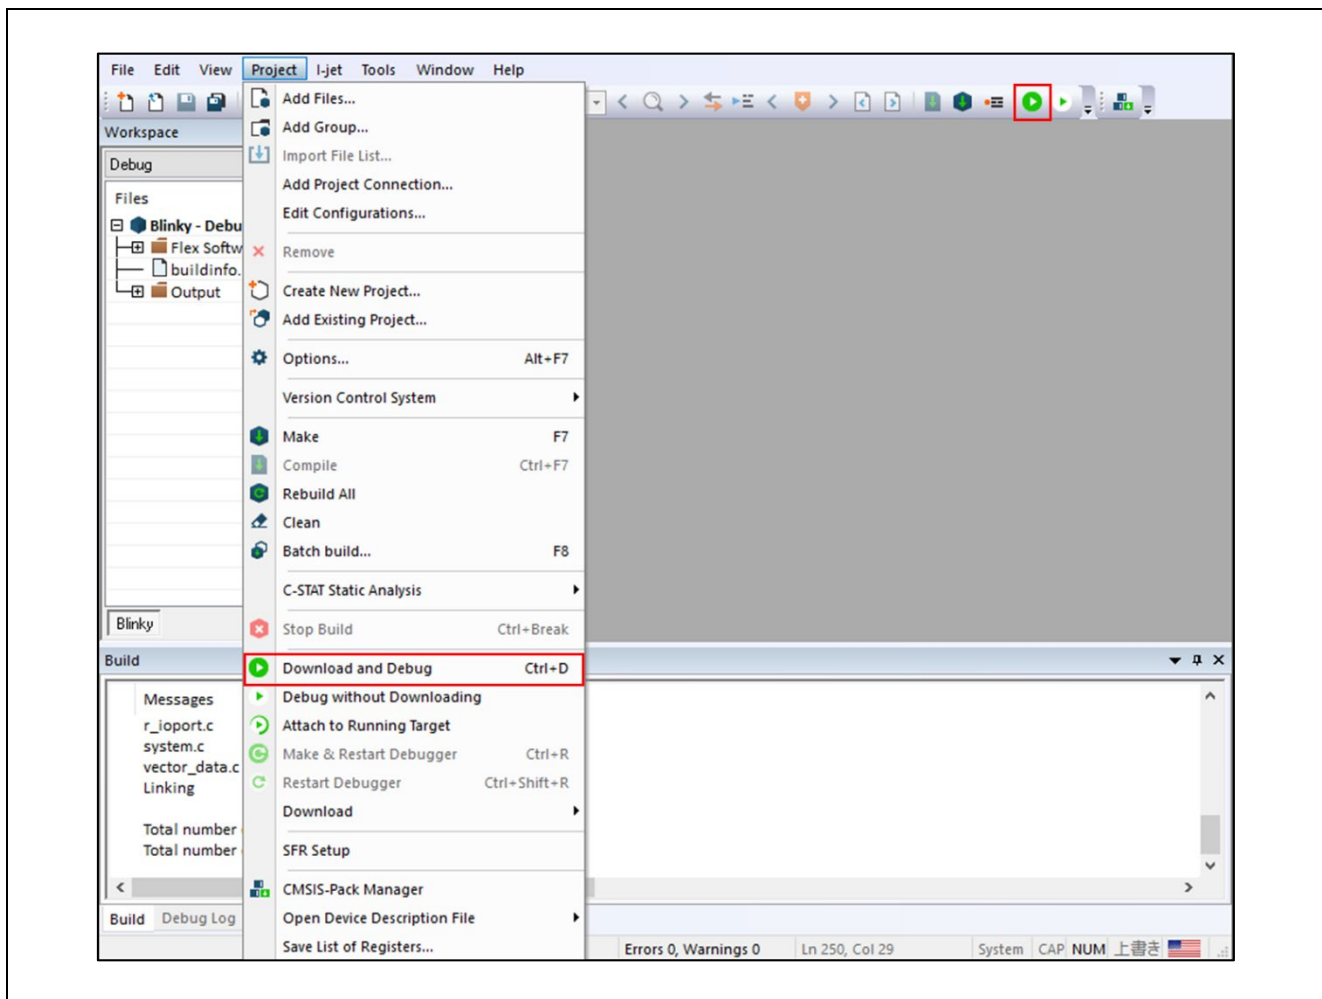

Figure 72 : Download and Debug Button
3. Download of the primary project with procedure 5.3.4 Download & Debug the Project as shown in Figure 72.